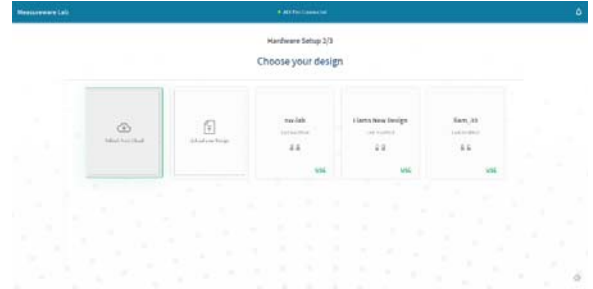

Figure 8. Design Selection
3. Choose which configuration to load. The MeasureWare Designer can generate new configurations (see Figure 8).
Once logged into the MeasureWare Lab account, the user selects a design from the design list (see Figure 8). The design list contains all the user designs generated in the MeasureWare Designer. Users can also choose to upload a configuration file. However, this is not recommended for most users.